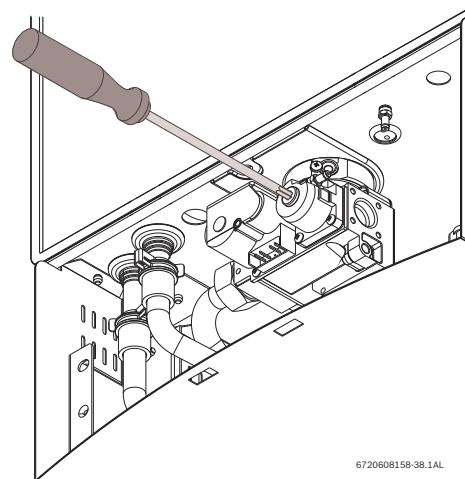

Fig. 60 Adjusting P2 CO₂ level
- ▶ Remove yellow painted #40 Torx cover from the front of the gas valve. (Fig. 60) A plastic #40 Torx screw will be revealed.